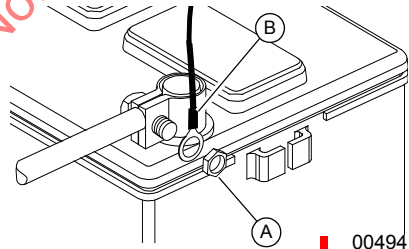

Figure 3-10. Attach Harness Power Wires
9. **For units equipped with Evolution 1.0 controllers or earlier:** See **Figure 3-10**. Loosen and remove nuts (A) from both positive (+) and negative (–) terminal screws on battery cables. Slide harness power wires (B) over terminal screws and replace nuts. Tighten securely.